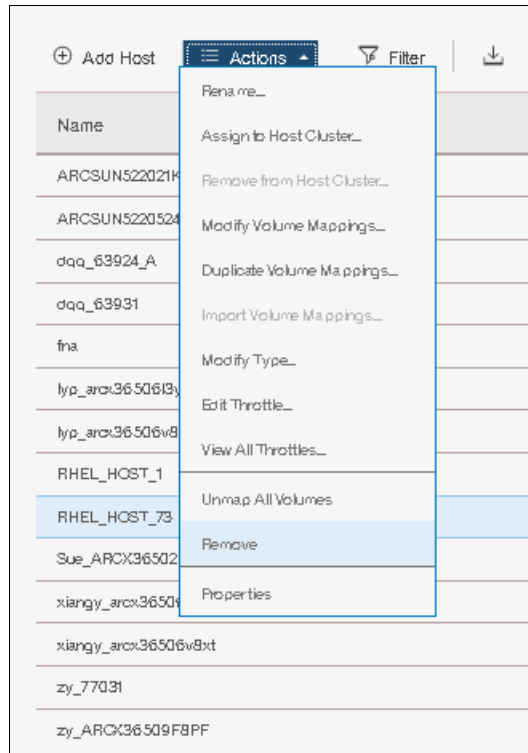

Figure 8-22 Selecting Remove operation
2. Select the host that needs to be renamed and click **Action** as shown in Figure 8-22 on page 362.